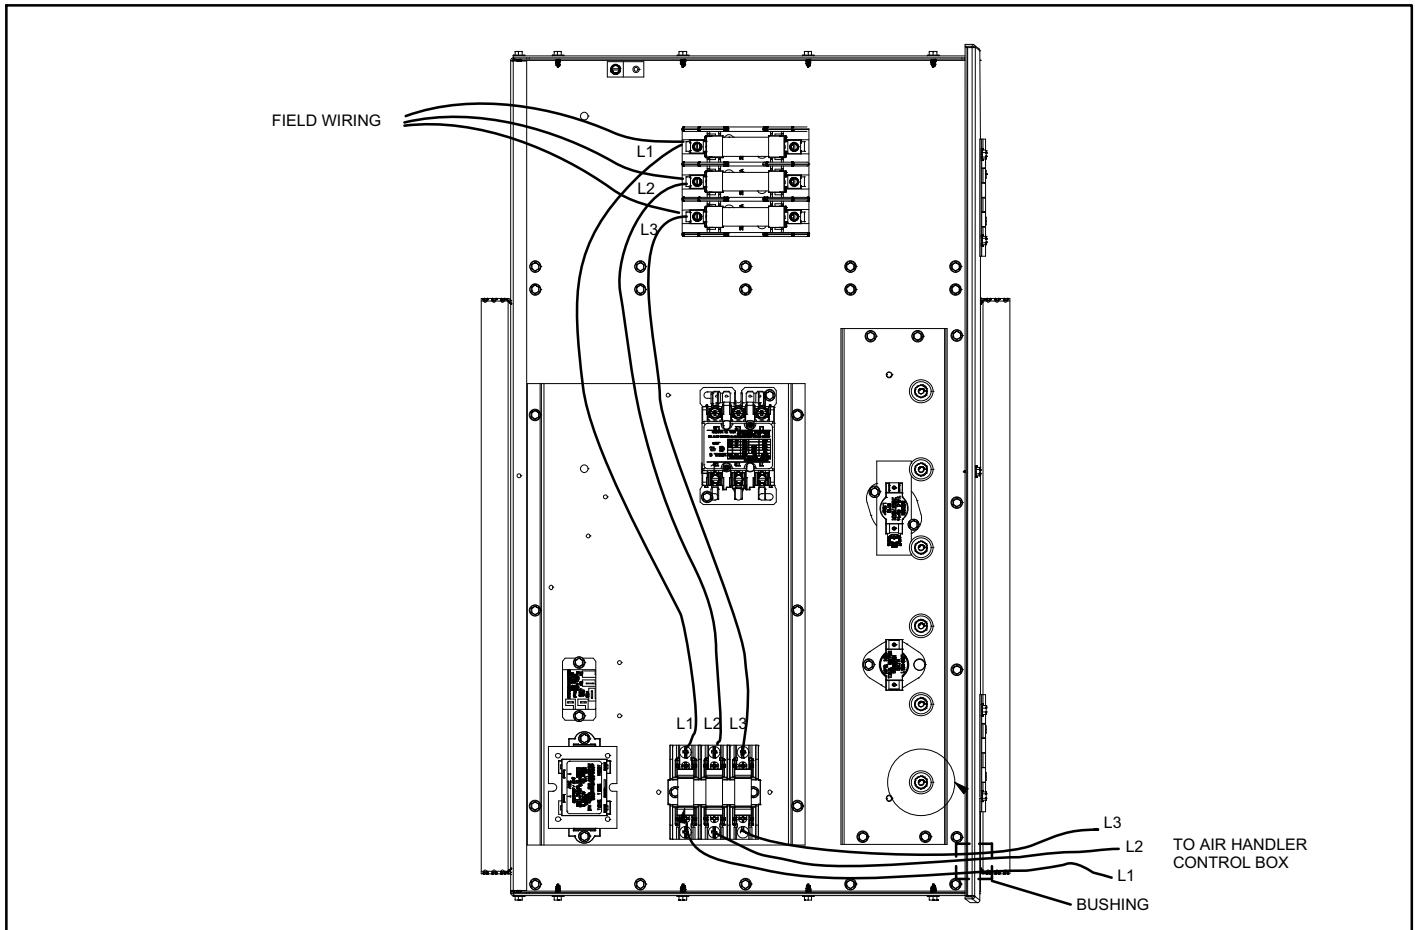

Figure 6. Typical Wire Routing
7. Route the electric heat wiring through the grommet and knockout bushing to the coil blower control box as illustrated in figure 6.